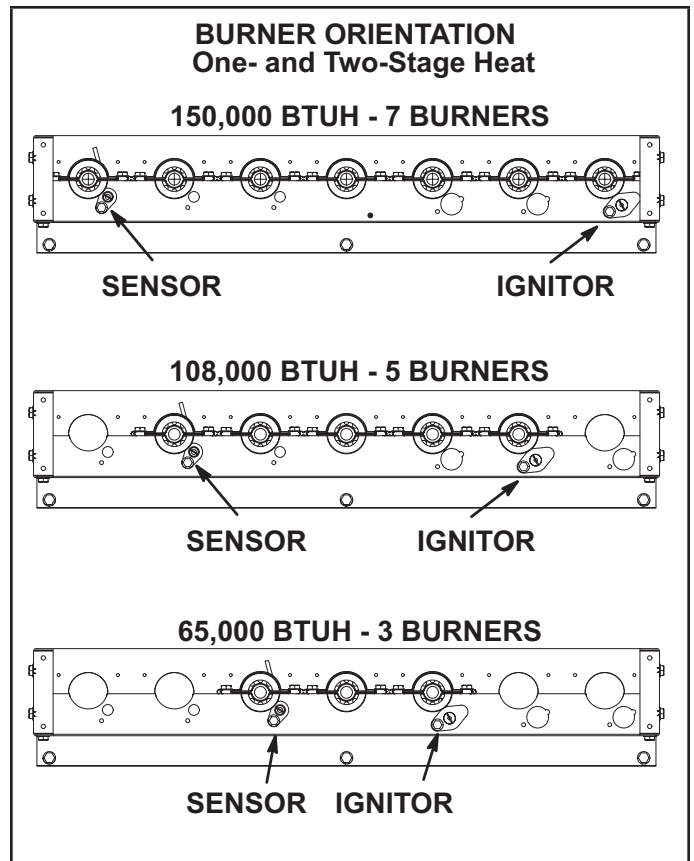

FIGURE 37
- 6 - Replace burners and screws securing burner. See FIGURE 37.